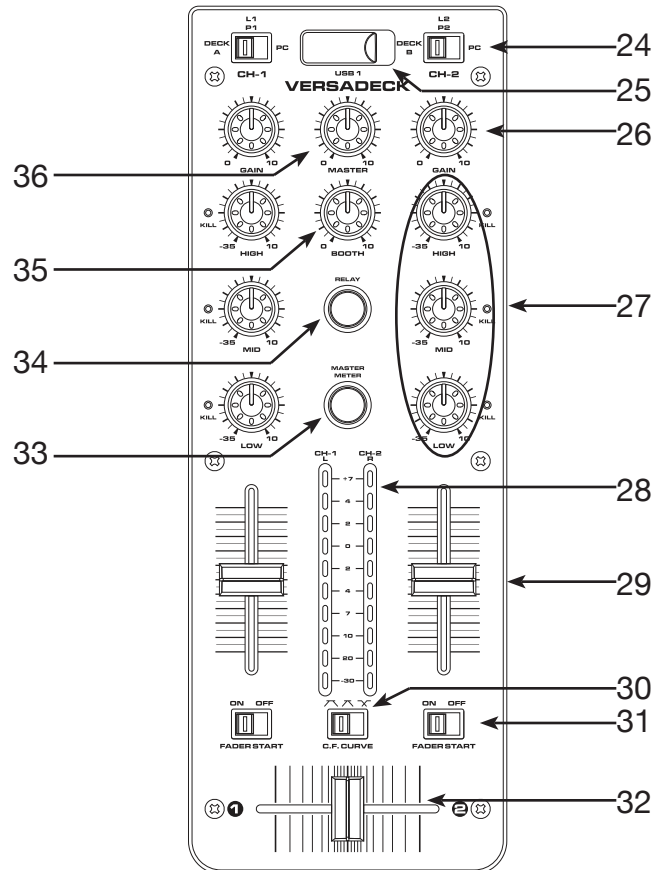

Figure 3
**B. TOP UNIT MIXER CONTROLS (FIGURE 3)**